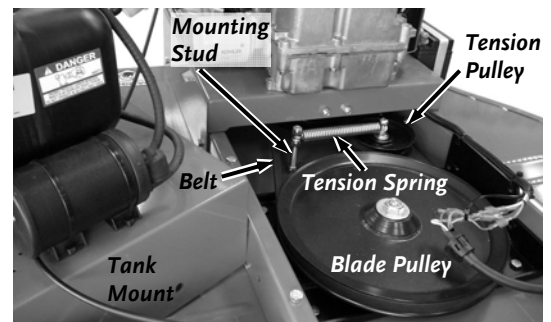

Figure 23
7. Carefully lift and set the Fuel Tank Mount to the Fuel Line side of the Engine (right hand side) (**Figure 23**).
12. To install the new Belt, follow the above procedure in the reverse order making sure that the Belt is on the inside of the Tension Pulley (**Figure 23**).